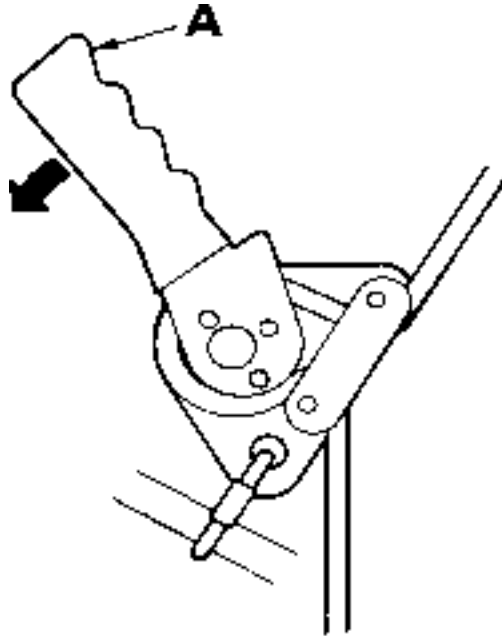

Fig 5
- Push handle 'A' SLOWLY down in direction of arrow (Fig5)